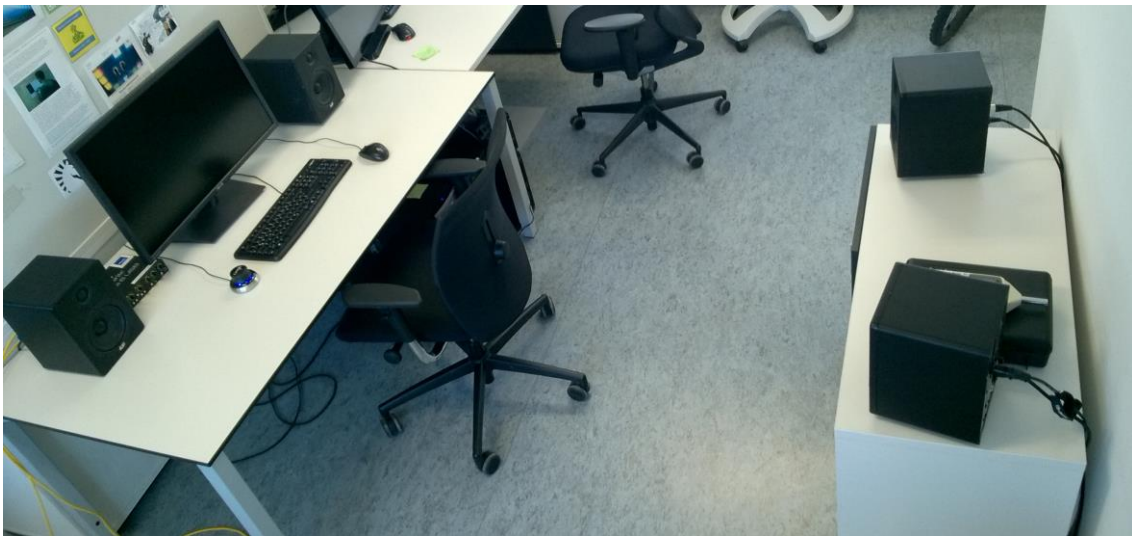

Figure 1: Possible test setup
- ☐ Build up the speakers: Two speakers should be placed beside the monitor, the other two speakers should be placed behind the person on the left and right side (in parallel to the speakers placed in front). The test subject should sit in the center of the installation (see Figure 1). To ensure the best possible sound quality for the test subject, the test lead should not sit directly in front of one speaker.